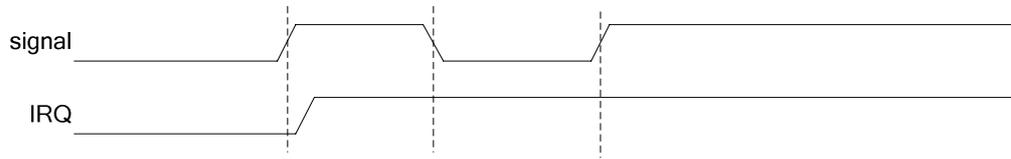
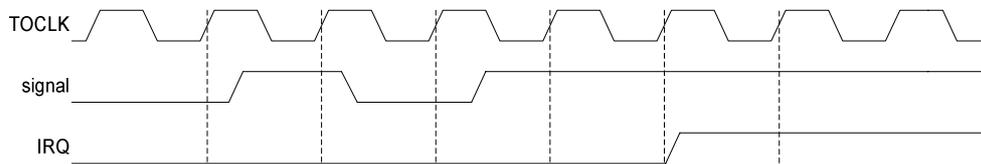

Figure 47 GPIO Latch
Figure 48 GPIO De-bounce
Three typical scenarios are presented in the following Figure 47, Figure 48 and Figure 49. The examples are:
- Latch a GPIO input (Figure 47)
- Debounce and latch a GPIO input (Figure 48)